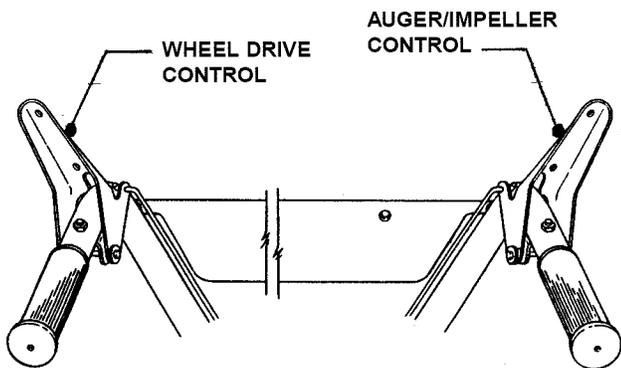

FIGURE 2.1
**2.1.3.** Check auger control and wheel drive control to insure cables are connected and both levers operate freely. See Figure 2.1.